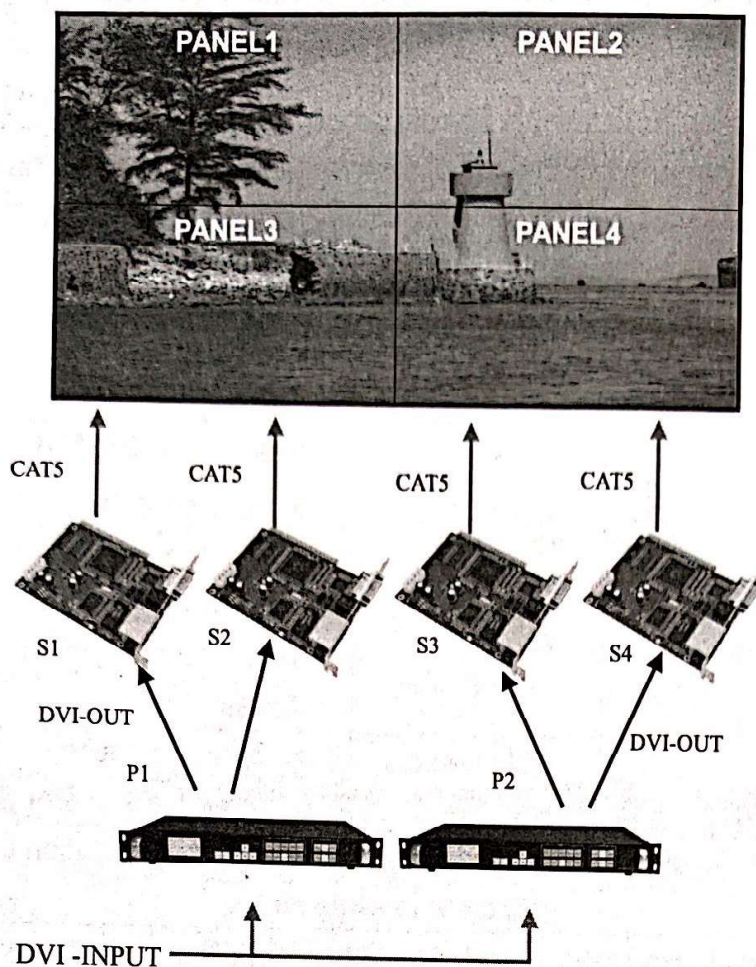

Figure 14-Unequal Splicing
1. Refer to Figure 14 Connect all devices.